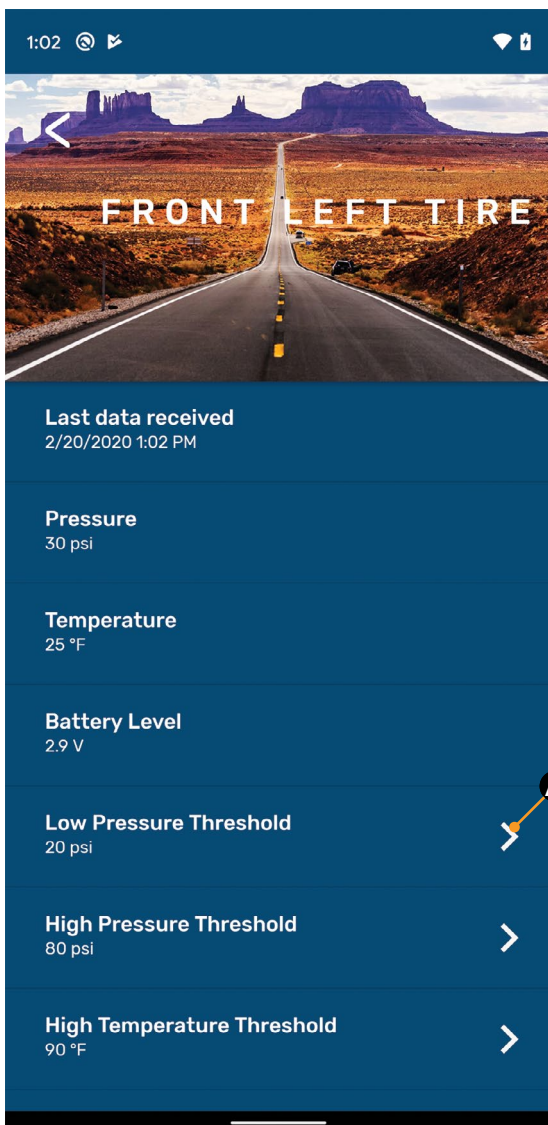

Fig.18
5. Tap the readout button (Fig.16A) of a tire to launch its properties window (Fig.18). Within the selected tire's properties window, various tire and sensor specifications can be observed and altered.
Programmable tire limits have a “next” arrow (>) (Fig.16A) that, when tapped, opens that feature’s scrollable window of available settings. Scroll through the limits window to find the desired setting, select it, then tap the “back” arrow (<) (Fig.18) located above the tire’s name at the top of the window’s heading.
**A.** In this example, the reported current tire **Pressure** is listed as “30 psi” (Fig.18).